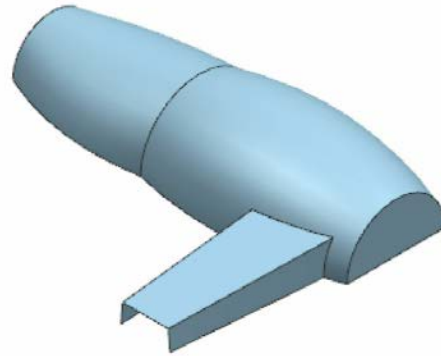

Figure 11-98 *Resultant surface for the handle*
8. Select all elements from the second section string, refer to Figure 11-98. Make sure that the direction arrows are on the same side of the sections.
11. Choose the **OK** button from the **Through Curves** dialog box; the handle surface is created, as shown in Figure 11-98.